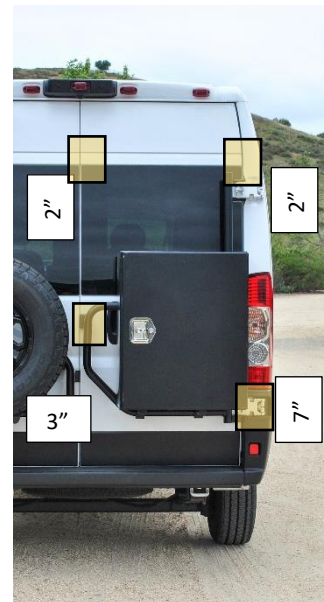

Figure 1: Locations of Protective Film Application
6. Apply the protective tape to the outside of the door (Figure 1). At the upper and lower hinge location, leaving approximately ½” of tape